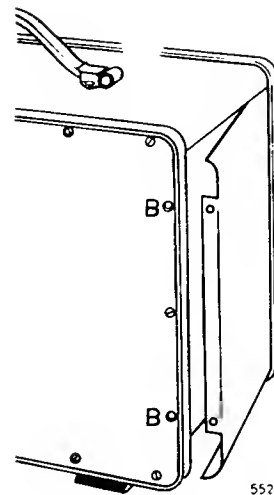

Fig. 6
- b. Push the panel slightly forward and lift it from the frame (see fig. 6).